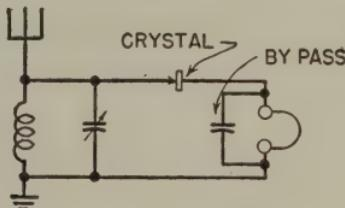

FIG. 2-42.—Simple receiver.
**Ques. 2.329.** Draw a diagram of a simple radio-receiver circuit using a crystal detector for rectification. (See Fig. 2-42.)
**Ans.** See Fig. 2-42.